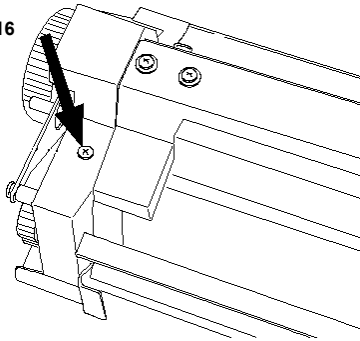

Figure 7
12. Place the shipping bracket on the outboard end in the shipping position (Figure 7).
26. Secure the Fuser Knob with tape (Figure 7).